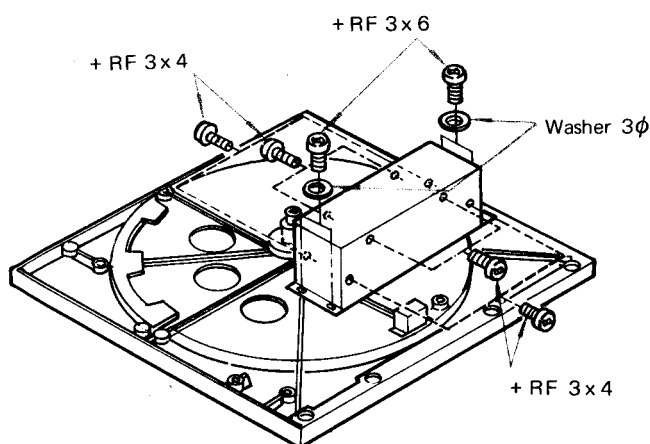

Fig. 2-4 Servo-amplifier shield case removal
2. Remove the four screws (+RF 3×6) that hold the shield case on the turntable base. See Fig. 2-4.
4. Remove the eight screws (+RF 3×4) securing both side panels to the shield case. See Fig. 2-4.